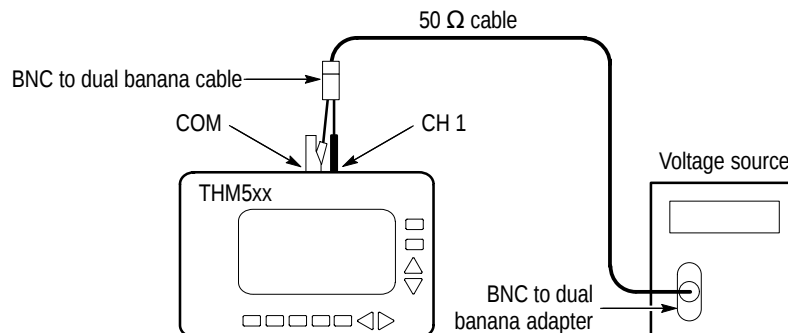

Figure 7: Vertical Accuracy Test Setup
1. Connect the voltage source output to the THM500 series instrument CH 1 and COM inputs as shown in Figure 7. Assure that the ground connection for each adapter connects to the common (or ground) connector of its associated instrument.